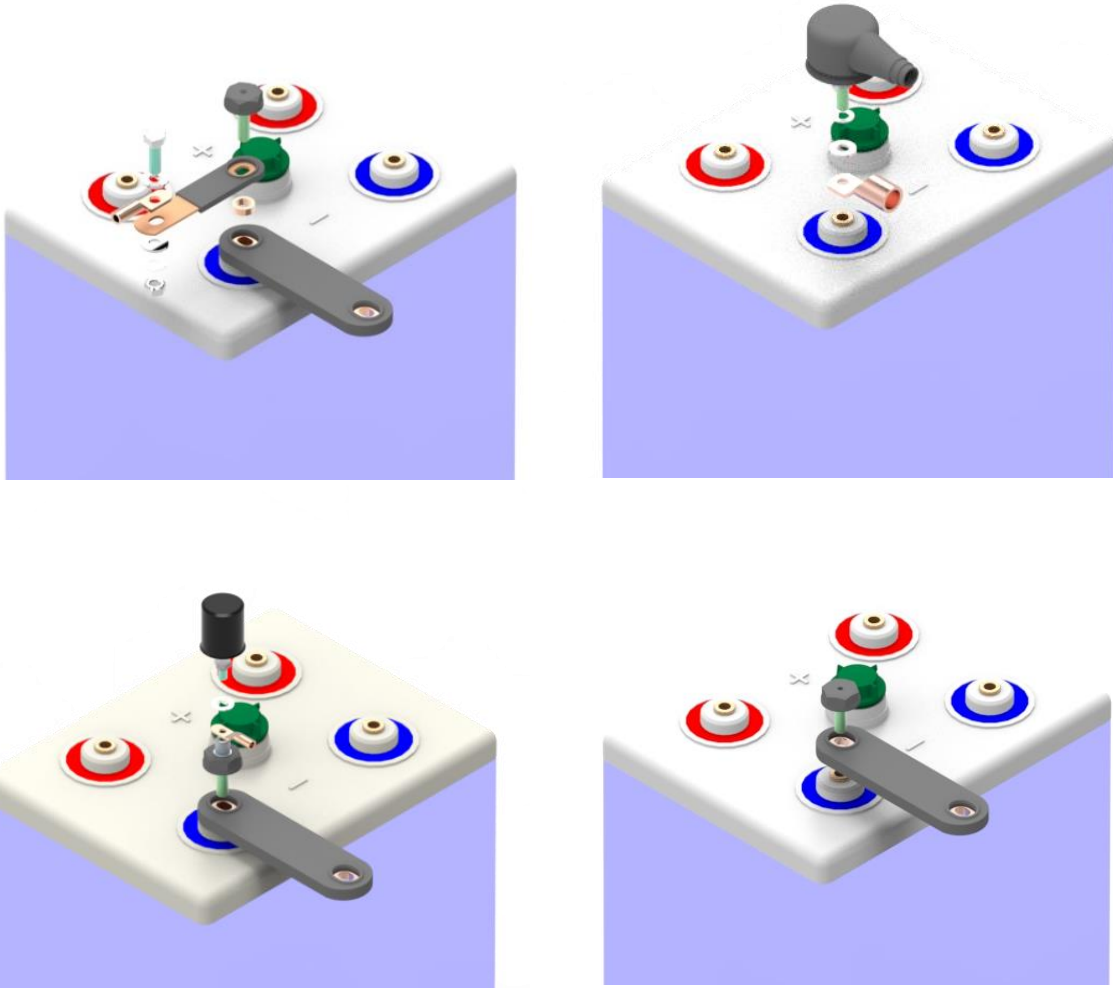

Figure 6.6.6-1 - Pole connection options for voltage taps, monitoring and cable lugs for end connection
1. The cells or block batteries are connected by isolated row connectors (see Figure 6.6.6-1). The negative pole of a cell or block is connected to the positive pole of the next cell or block until the desired total system voltage is reached.